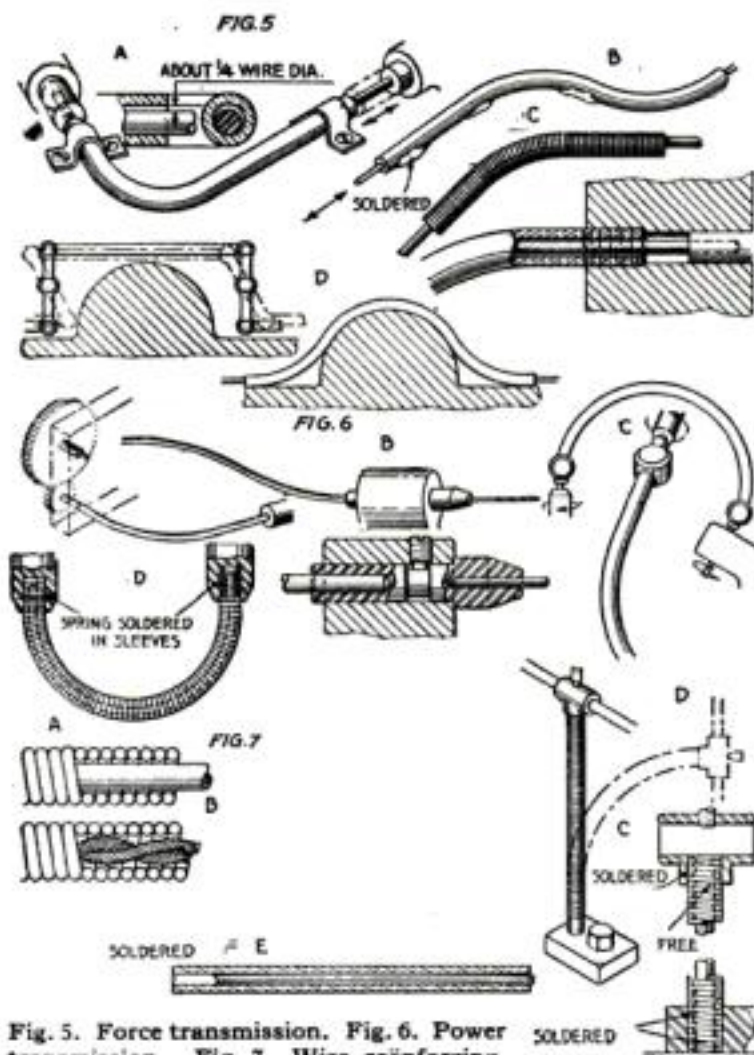

Fig. 5. Force transmission. Fig. 6. Power transmission. Fig. 7. Wire reinforcing.
**W**ITHIN limits, piano wire may also be used for transmitting a push instead of a pull. One well-known example of such a use is brought out in the shutter release used in most cameras. The same idea may be used to advantage in the shop by encasing the wire in a loosely fitting soft brass or copper hollow wire or tubing. The arrangement, with clearances, is shown in Fig. 5 at A. The bends must not exceed those given in Fig. 3 at D, and the wire should be kept well lubricated at all times. The longer the wire and the greater the total curvature it has to negotiate, the heavier should be the tubing or the more frequently should it be supported, as suggested at B. A close-wound piano wire coil spring, as at C, is a good alternative for the tubing and requires no lubricant. As indicated in diagram D, such a wire push device can sometimes be used to eliminate a complicated lever system, in addition to forming practically no external obstructions.